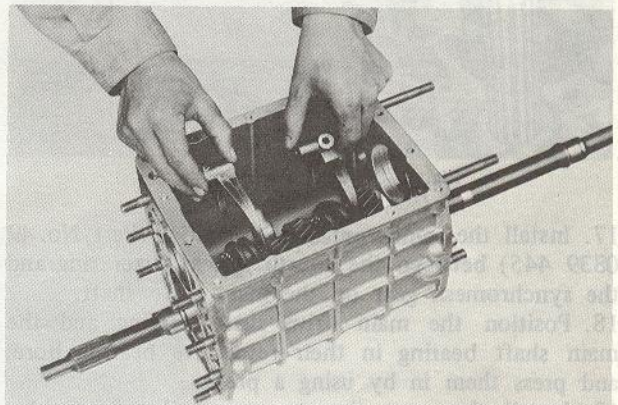

Fig. 7-30 Installing shift forks
14. Position the first-and-second shift fork and third-and-fourth shift fork in the groove of the clutch hub and sleeve assembly, as shown in Fig. 7-30.